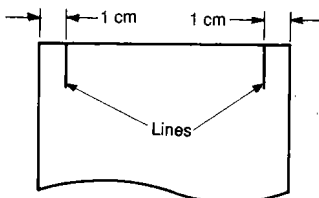

Figure 4-16
- 1) Draw a line 1 cm from both ends of copy paper (A4 or A3) as shown in Figure 4-16.